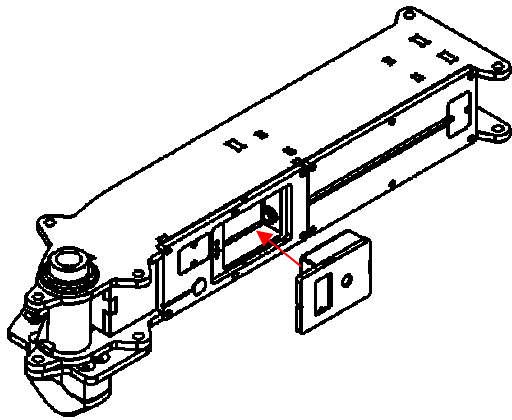

Figure 6 – Insert battery
1. Insert the battery in the device (*Figure 6 – Insert battery*).